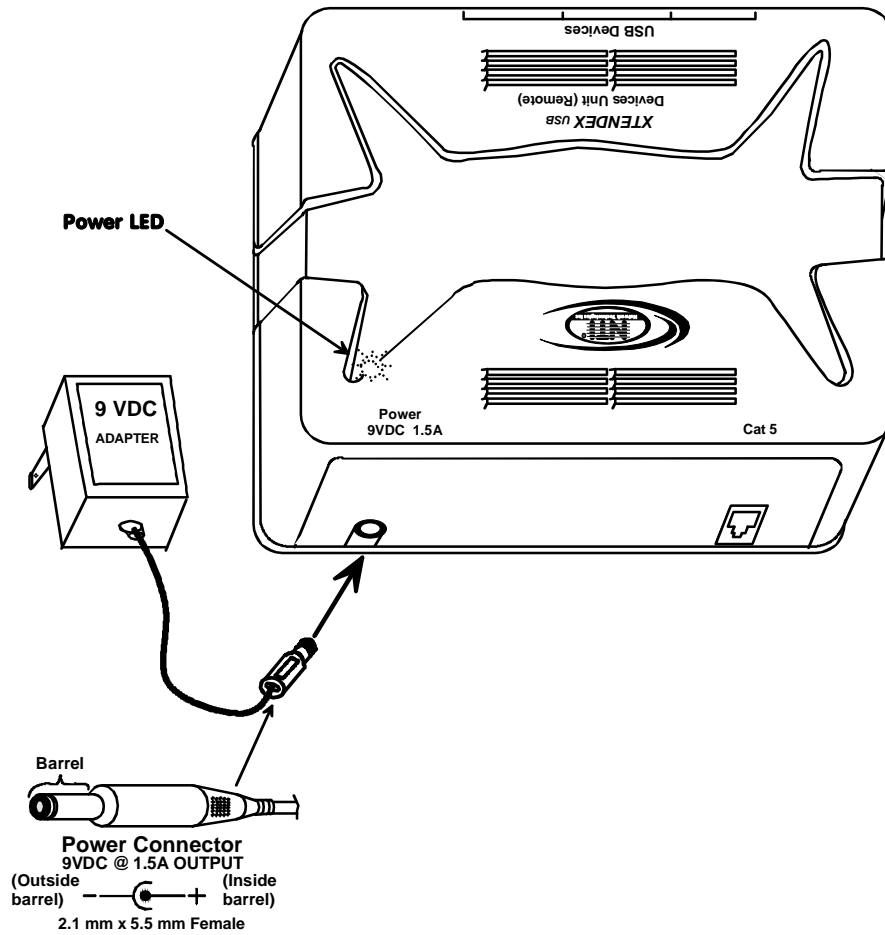

Figure 4- Connect the AC adapter to the Devices Unit
1. Connect the AC adapter power connector to the 9VDC port on the Devices Unit. Make sure the power connector is properly inserted. (See Fig. 4.)
2. Plug the AC adapter into a power outlet. The power LED on the Devices Unit (see Fig. 4) should illuminate indicating that a proper power connection has been made.